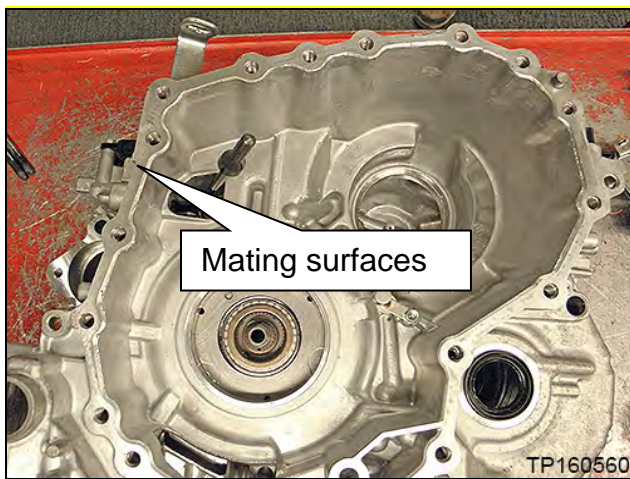

Figure 14F
12. Thoroughly clean the mating surfaces of the CVT case (Figure 14F) that the sub-assembly was just separated from (a plastic scraper can be used).